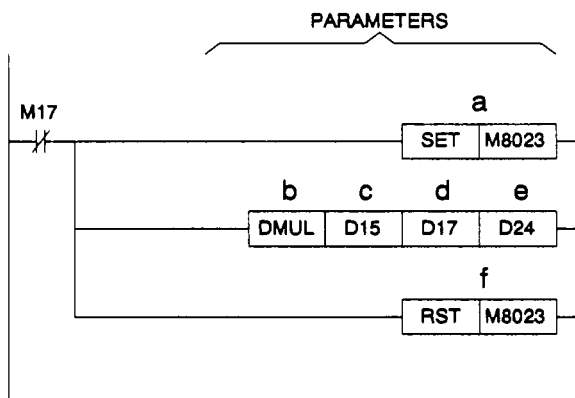

Figure 1: The floating point Multiply instruction in ladder format.
Figure 1 shows the typical appearance of a floating point Multiply instruction in a ladder program, while Figure 2 shows the same piece of ladder logic written in instruction format. This Multiply instruction would have the effect of multiplying the floating point value stored in Data Register pair D16 and D15 by the floating point value stored in D18 and D17 when Auxiliary Relay M17 is turned off. The floating point result would then be stored in D25 and D24. Finally, the floating point operation is ended by resetting M8023. The following section explains each parameter in greater detail:
- i) **DMUL:** The standard form of the instruction, taking 13 steps of program. In the example shown in Figure 1, while M17 is turned off, the DMUL instruction will operate.